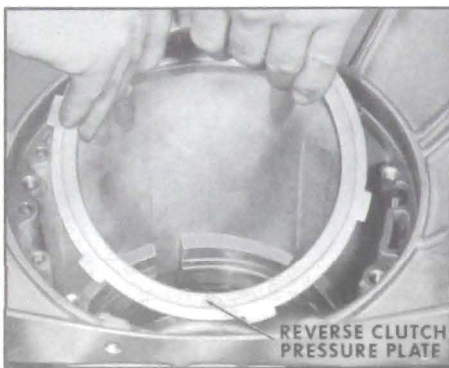

Figure 5-150
2. Lift reverse clutch pressure plate from transmission case. See Figure 5-150.